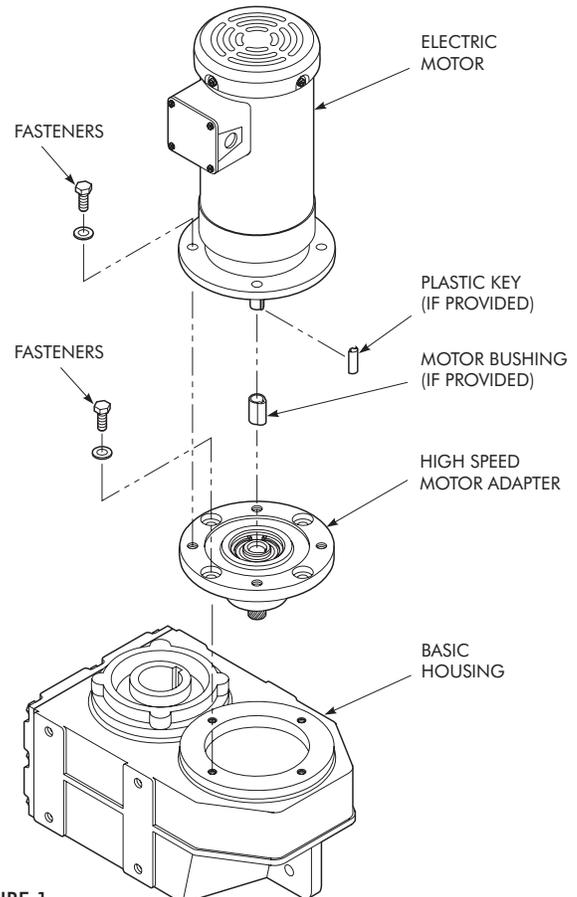

FIGURE 1
PROCEDURE G — Figure 1
1. Place basic housing on a workbench so that high speed end is facing up as illustrated in Figure 1. If necessary, block housing so that it is stable and level.